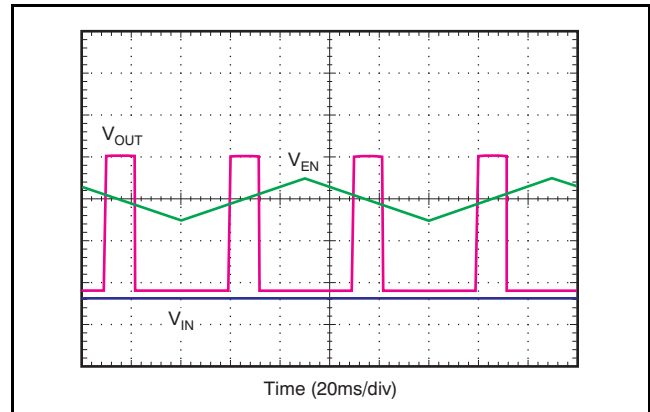

Figure 30. Enable Pin Positive/Negative Threshold
The TPS7A30xx provides a dual polarity enable pin (EN) that turns on the regulator when $|V_{\text{EN}}| > 2.0\text{V}$, whether the voltage is positive or negative, as shown in Figure 30.